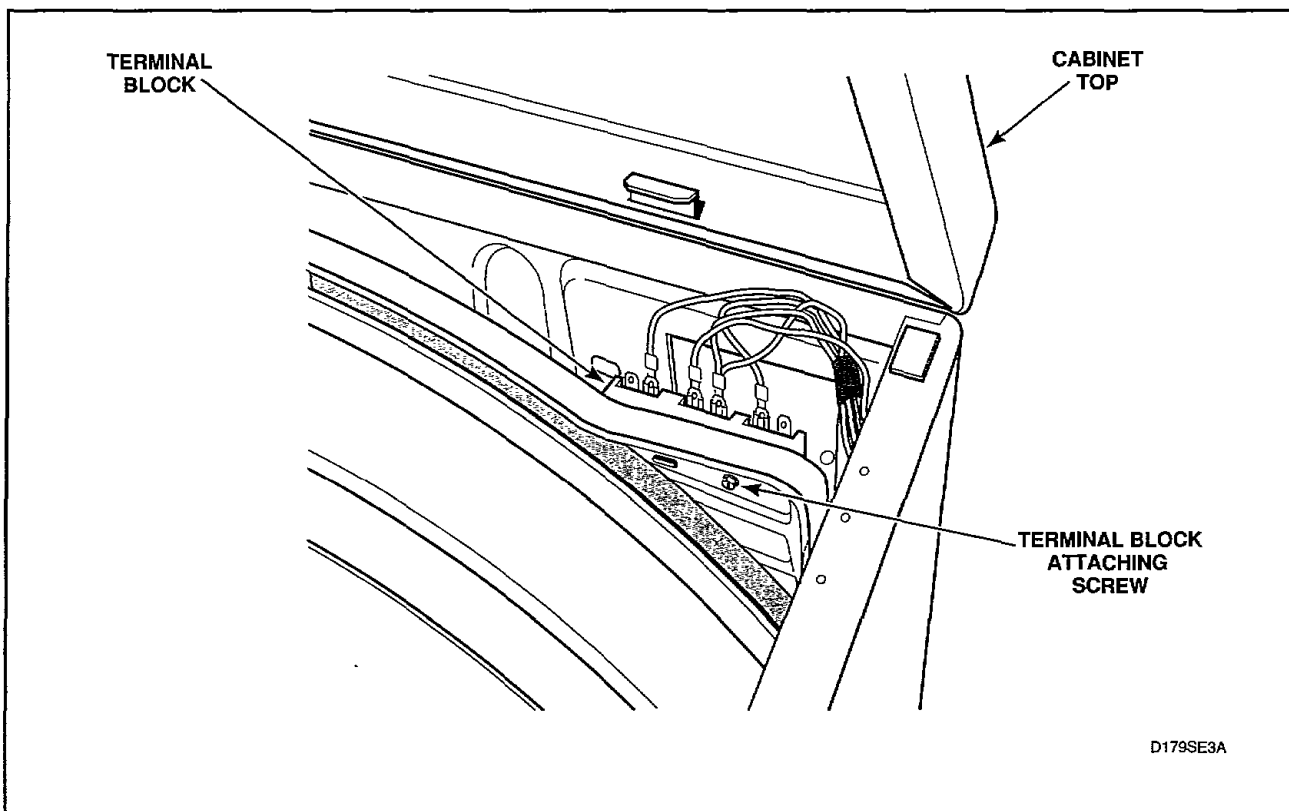

Figure 44
- (7) Remove all wires from terminal block. (Refer to appropriate wiring diagram when rewiring terminal block.)
- (8) Remove screw holding terminal block to rear bulkhead, *Figure 44*.